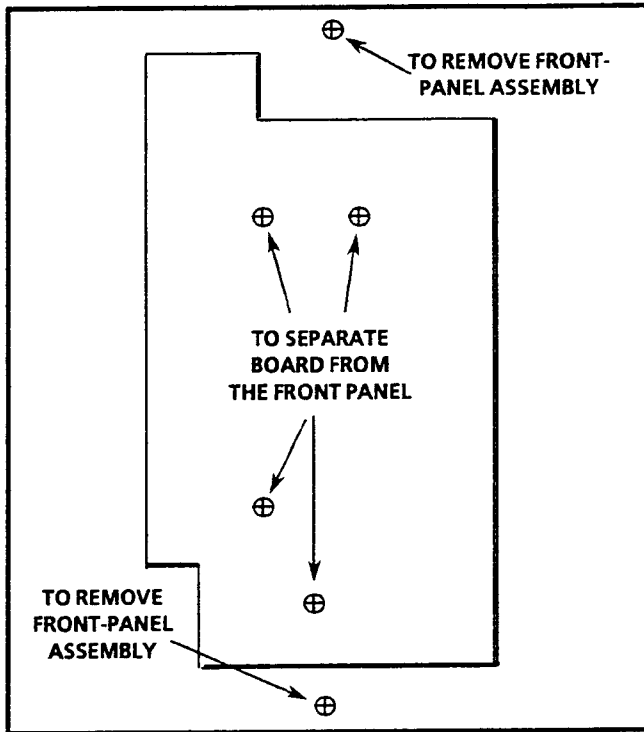

Fig. 6-9. Screws that hold the Front Panel board (A2) in place.
2. Remove the two screws holding the board in place. See Fig. 6-9 for location.